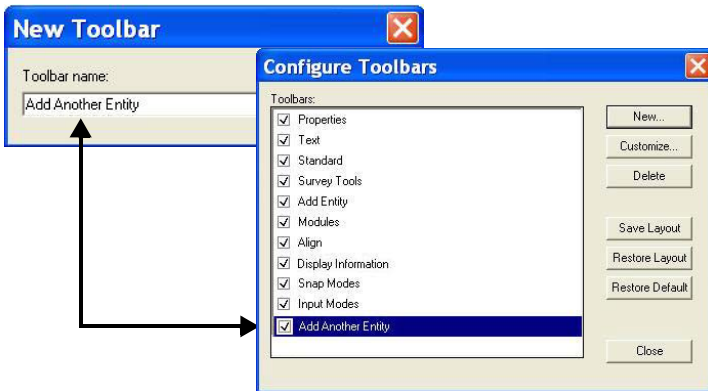

Figure 7-19. Configuring Toolbars
- **New** – press to name a toolbar on the *New Toolbar* dialog box (Figure 7-19).